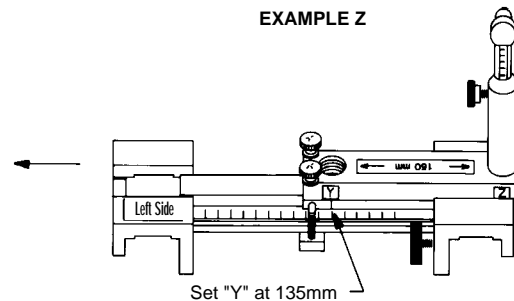

Figure 16
(Refer to Figure 13-Page 7 and Figure 16 below.)
- b) To measure to 'Z' position, remove scale holder from 228mm Bar and rotate one-half turn. Set scribe line under Y at length designated (135mm). (See Figure 16.)